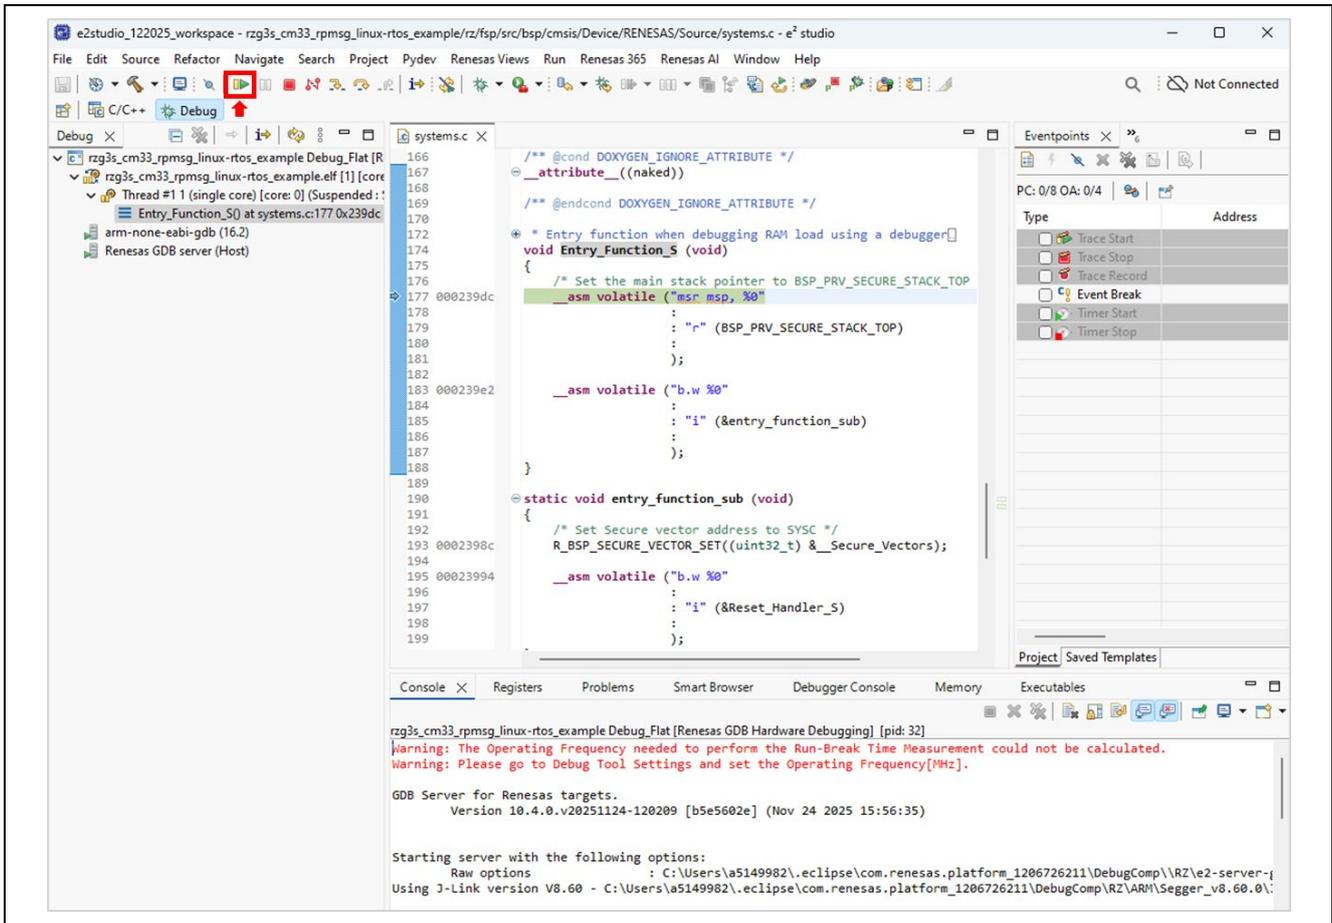

Figure 4-16. Start to debug RPMsg Sample Program (1)
- When the debug perspective is opened, Program Counter (PC) should be located at the top of **Entry_Function_S** function. Then, you need to press the button indicated by a red arrow in Figure 4-16: